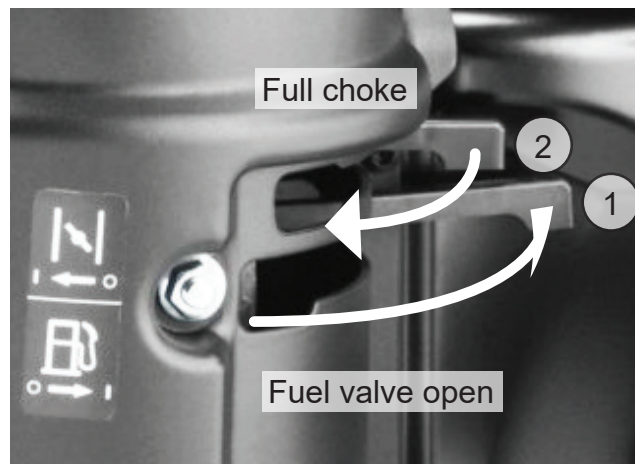

fig.12 Choke and fuel positions for cold start
10. Turn on (move to the right) the fuel valve lever (1, fig.12).
11. For cold engine start, move choke lever all the way left to the full choke (closed) position (2, fig.12). For engines that are already warm, place lever in half choke or run position.
Moving the fuel valve (1, fig.12) to the left, to the closed position will shut off the engine.